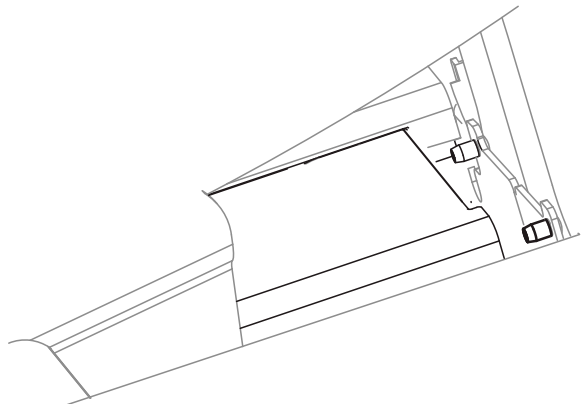

Figure 1.6
4. To replace a track cover, position it over the track and slide it up, inserting the pegs on the frame into the holes at the top of the track (Figure 1.6). Lower the bottom end of the track into position and secure it with the three (3) screws.
The PRO4700 elliptical machine offers a diagnostics mode to test the electrical functions. To enter the diagnostics mode, pedal the elliptical, then hold down the Time, Level, and Up Arrow (▲) and Down Arrow (▼) keys simultaneously for three (3) seconds. Several tests and results are displayed in the console windows (shown in Figure 1.6), as indicated in the chart below. Use the Up Arrow (▲) and Down Arrow (▼) keys or the numeric keypad to navigate through the diagnostic tests options. When (ENTER) is displayed along with the Test Name, you must press the ENTER key to begin the test. To exit a test, press PAUSE CLEAR twice, then use Up Arrow (▲), Down Arrow (▼) or the numeric keys to move to the next test. The following diagnostics are available: